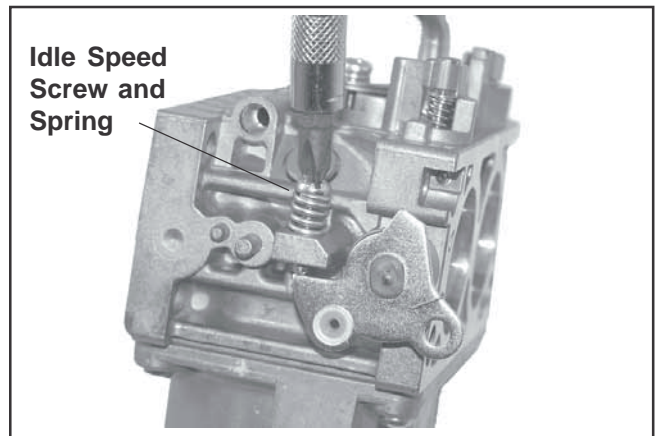

Figure 5-24. Installing Idle Speed Adjusting Screw and Spring.
11. Install the new idle speed (RPM) adjustment screw and spring onto the carburetor. Thread in until 3 or 4 threads are exposed, as an initial adjustment. See Figure 5-24.